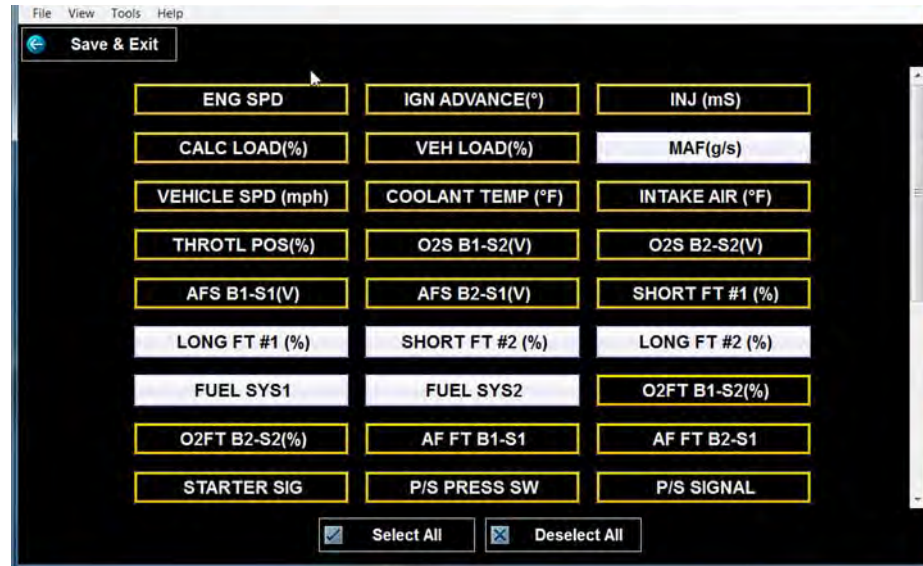

Figure 12-29 Creating a custom parameter list
- A list of available parameters displays (Figure 12-29).